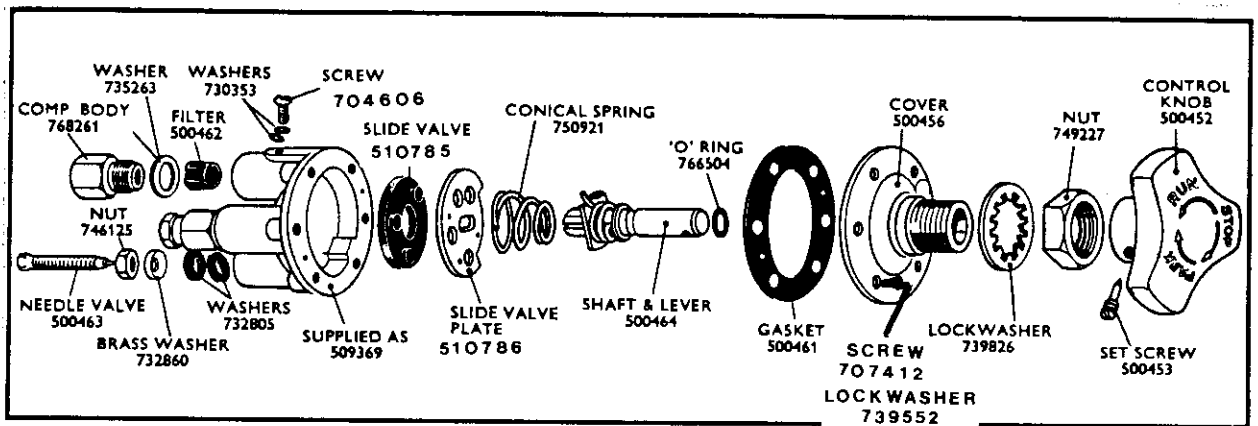

FIG 1 - Control Valve - Exploded View
- Item List for Fig 1
- Fig 1 - Control Valve - Exploded View
1. Dismantling. (See Fig. 1)
ITEM LIST FOR FIGURE 1